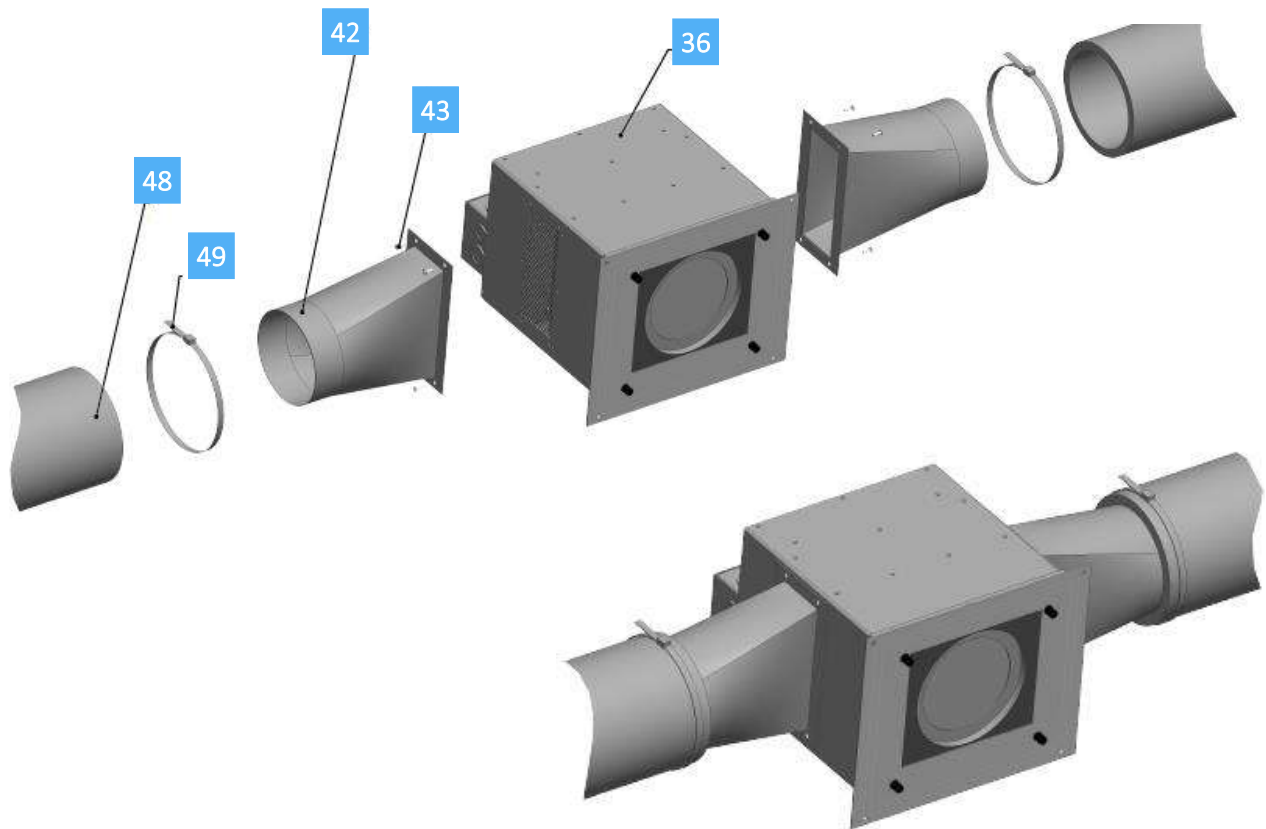

Fig. 35 *Installation of the ventilation kit*
- C. Fasten the cable gland to the junction box as shown in Figure 35.
- C. Fasten the cable gland to the junction box, as shown in Figure 35.